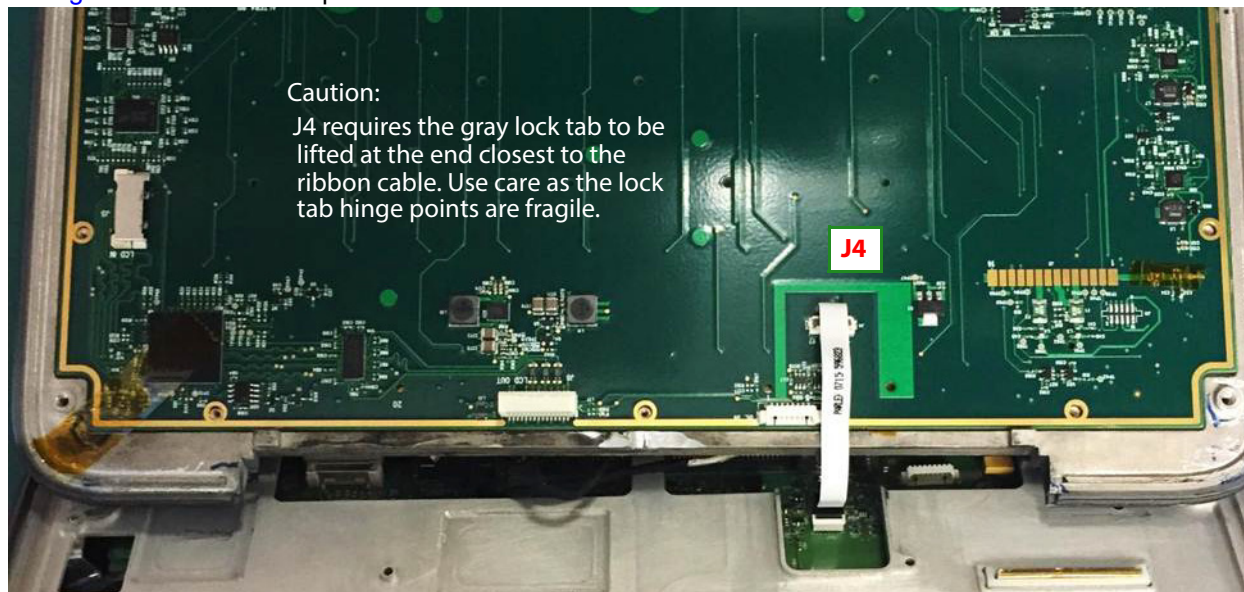

Figure 6.7 Control Panel Bottom
- 9 Remove the J4 “SPI” ribbon cable after unlocking the dark gray retainer on the socket as shown in Figure 6.7. The control panel can now be removed..
- 7 Remove the J4 "SPI" ribbon cable after unlocking the dark gray retainer socket as per Figure 6.7.
- 3 Connect the J4 "SPI" ribbon cable and lock the dark gray retainer on socket as shown in Figure 6.7.